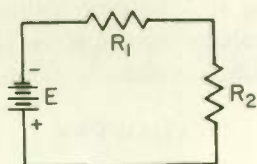

Fig. 44
4. If two resistances of equal value are in series across a voltage source, the voltage across one resistor is the same as that across the other. If $R_1 = R_2$ in Fig. 44 and if the voltage across R_1 is 15 V, then the voltage across R_2 is (a) 15 volts and the voltage of battery E is (b) 30 volts. If two identical light bulbs, each rated at 15 V, are connected in series, the battery furnishing current to the bulbs should have a voltage of (c) 30 volts if the bulbs are to light at normal brilliancy.